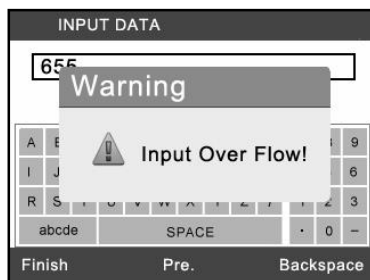

Figure 6.15
- NOTE: The data you input must be in the reasonable range, which is defined by the preset values in VIN. If you enter a data out of range, the tool will display a warning message.(Figure 6.15)